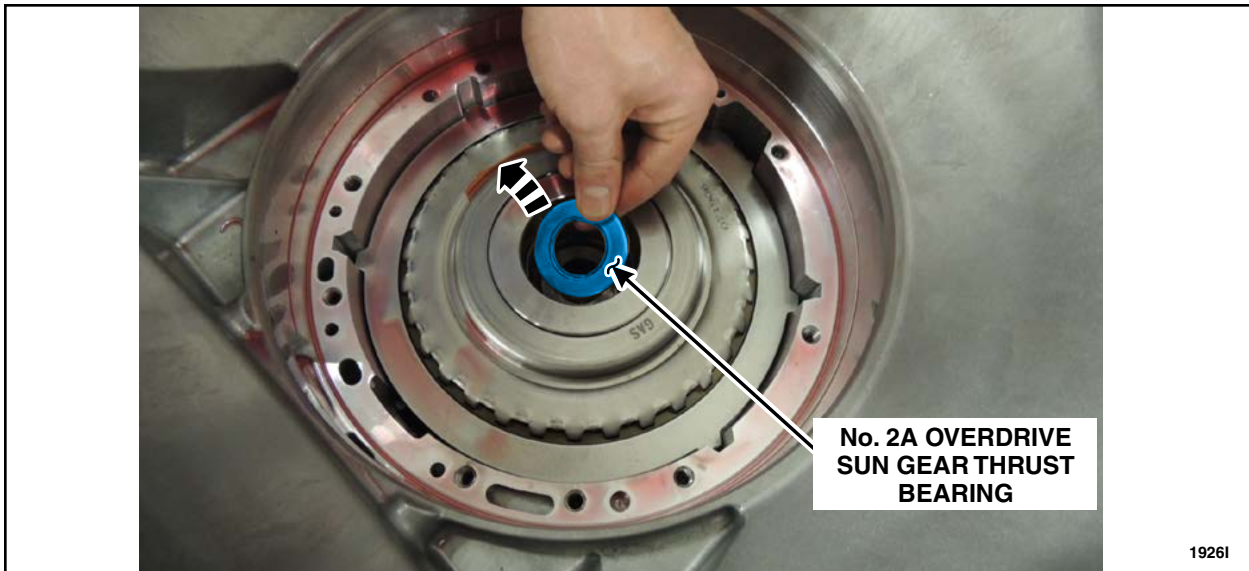

FIGURE 10
11. Remove the No. 2A overdrive sun gear thrust bearing. See Figure 10.